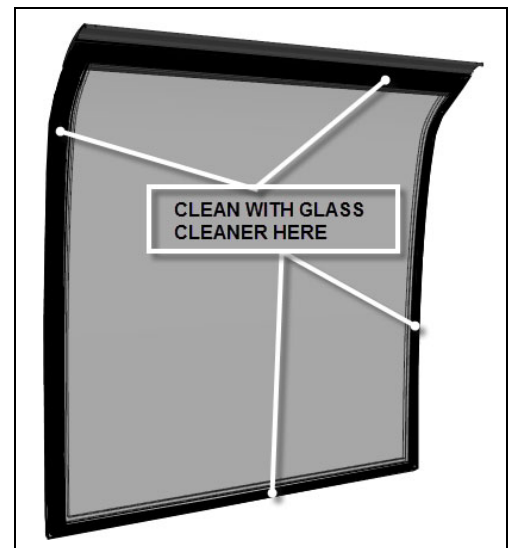

FIGURE 5
7. In preparation to adhesive application, clean the dark area on the inner side of the window pane using glass cleaner (refer to FIGURE 5).